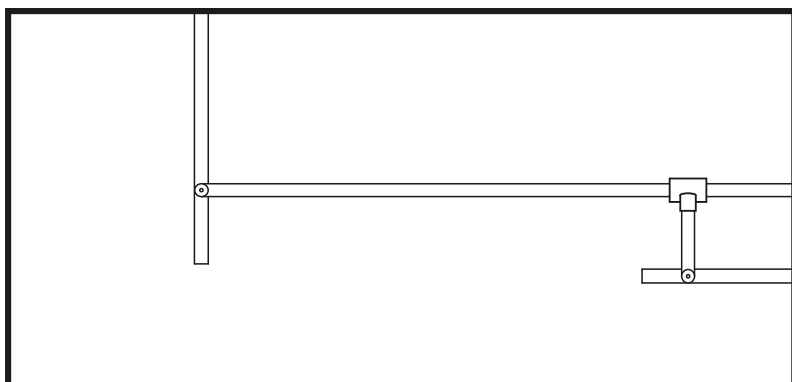

Figure 10
32. After installation, the position of the telescopic tubes, viewed from above, should look as shown in Figure 10.